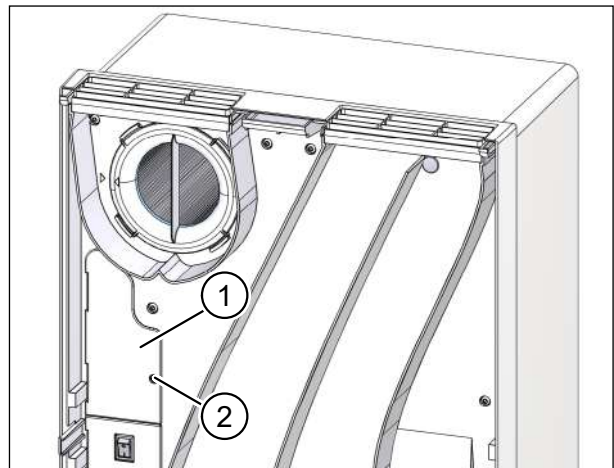

Fig. 49: Fixing the electronics compartment cover plate
- ▶ Insert the electronics compartment cover plate (item 1 in Fig. 49) into the ventilation unit.
- ▶ Use the Torx screw (item 2 in Fig. 49) to fix the electronics compartment cover plate.